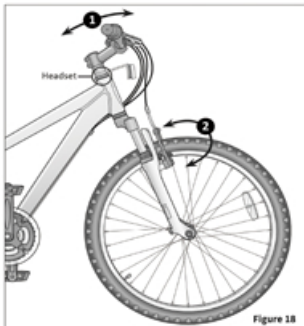

Figure 18
- 1** **Shakiness:** Apply the front brake and push the handlebars back and forth, front to back or if the bicycle is on a workstand and the front wheel removed, push and pull on the forks. If you feel a knocking sensation or "clunk" it means the headset is too loose. **Important!** Use care with suspension forks, because the legs may have play in sliders. Grab upper portion of fork. **Figure 18**